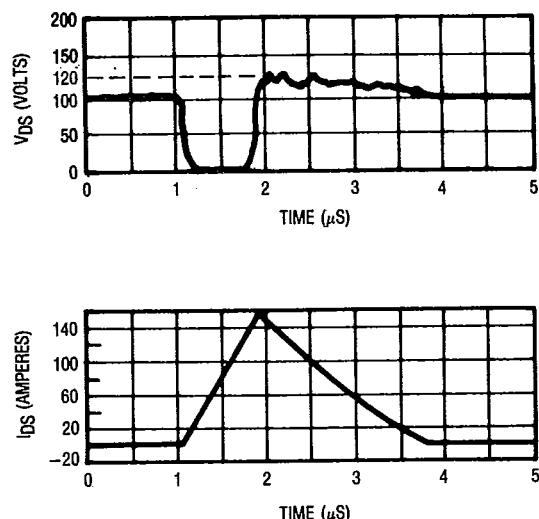
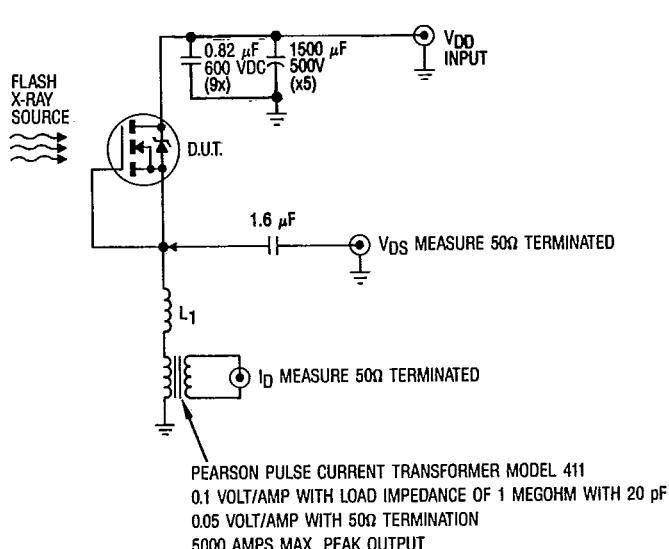

Fig. 10 — Typical Transient Response of Rad Hard HEXFET During  $1 \times 10^{12}$  Rad (Si)/Sec Exposure
Fig. 12 — High Dose Rate (Gamma Dot)
High dose rate (gamma-dot) testing is done using a dose rate set at  $1.5\text{--}2.0 \times 10^{12}$  rads (Si)/sec. The device is exposed to this rate with its full rated breakdown voltage applied. Photocurrent and transient voltage waveforms are shown in Figure 10. With the rated breakdown voltage applied the device will survive the maximum rated  $di/dt$ . The device performance is presented in table 2. The test circuit used for this test is shown in figure 12.
⑧ This test is performed using a flash x-ray source operated in the e-beam mode (energy ~2.5 Mev). See figure 12.
⑨ Study sponsored by NASA
⑩ Study sponsored by Rockwell International
⑪ To be determined